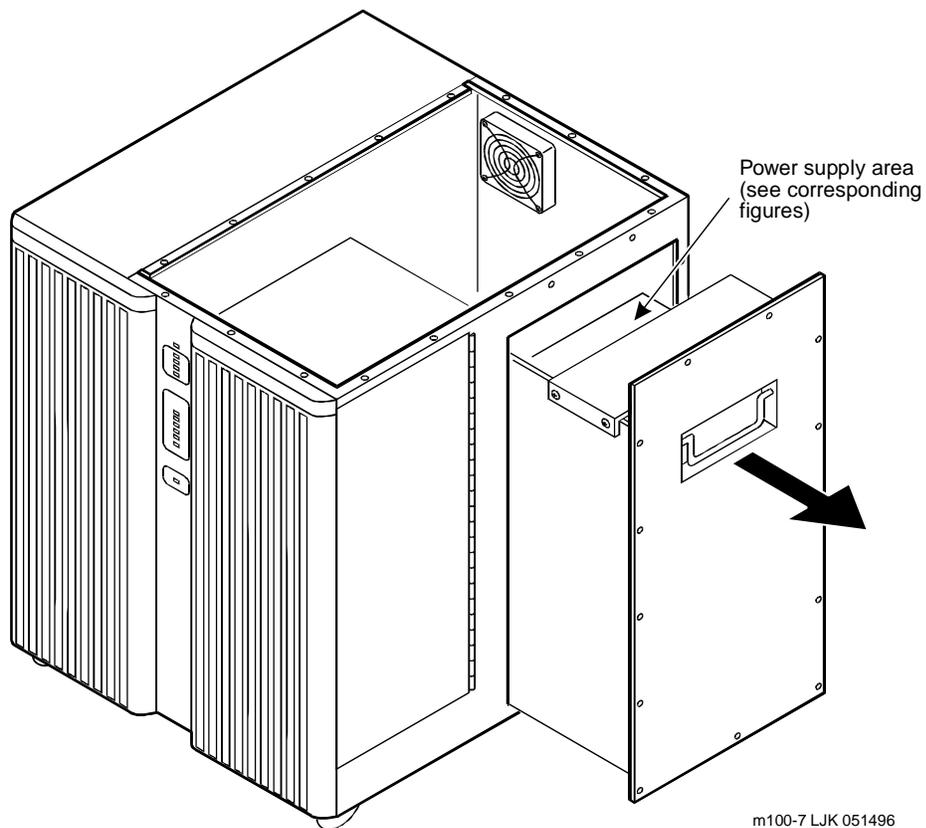

Figure 7-13. UPS-Equipped Power Supply
The UPS-equipped power supply provides 110/220-VAC and is located behind the peripheral bay. Both the power supply and the battery are housed within a removable module (Figure 7-13).
7. Loosen the 13 1/4-turn fasteners around the perimeter of the Power Supply A chassis (Figure 7-13).
2. Slide the power supply chassis into the MAP/100. Leave the power supply chassis extending from the MAP/100 (Figure 7-13).